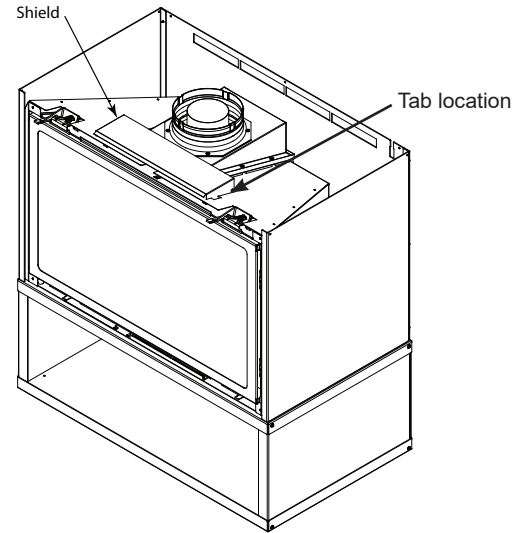

Figure 6.18
18. Install the shield on top of the insert by placing tabs from the shield into the open slots on top of the insert outer wrap. See Figure 6.18.